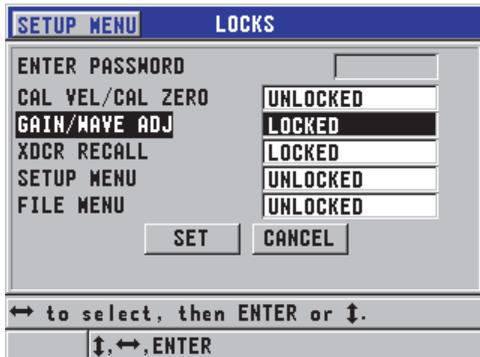

Figure 7-10 The LOCKS screen
2. In the **LOCKS** screen (see Figure 7-10 on page 134):